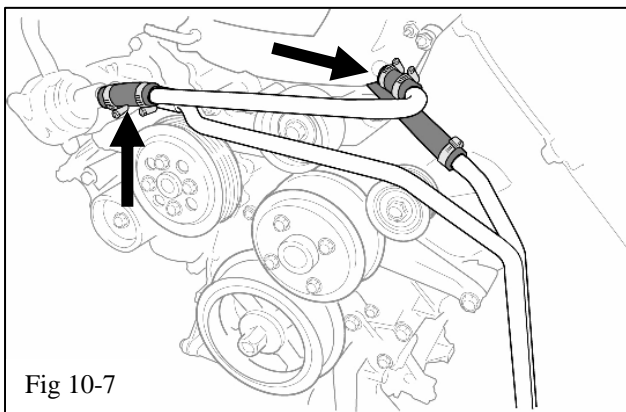

Fig 10-7
- (h) Slide a supplied screw clamp (C3) on each end of the "J" shaped by-pass manifold (C2) and attach it to the thermostat housing and the water by-pass joint (Fig 10-7). Ensure the tube fits comfortably without any kinks and tighten the screw clamps.